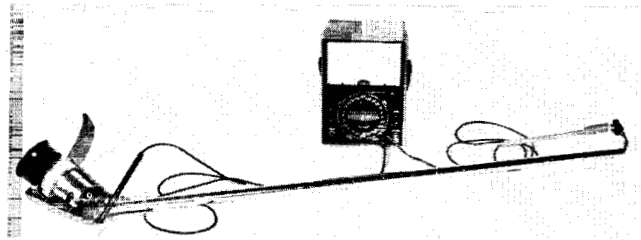

Figure 5.9
5.9 TEST LOWER HARNESS (fig. 5.9)